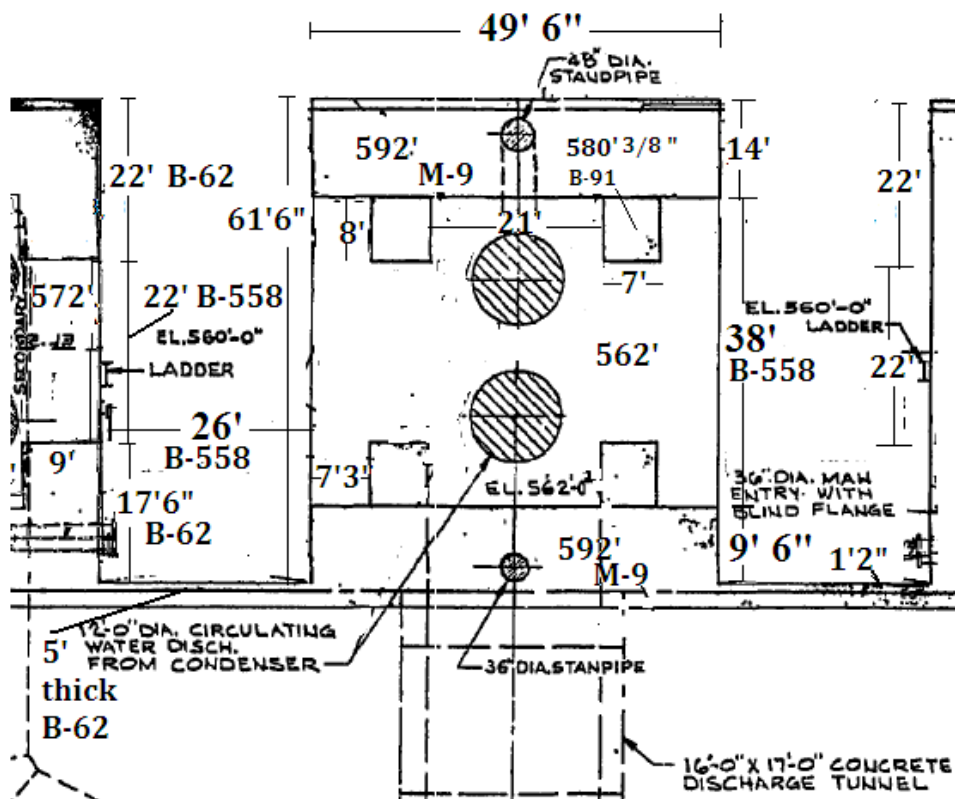
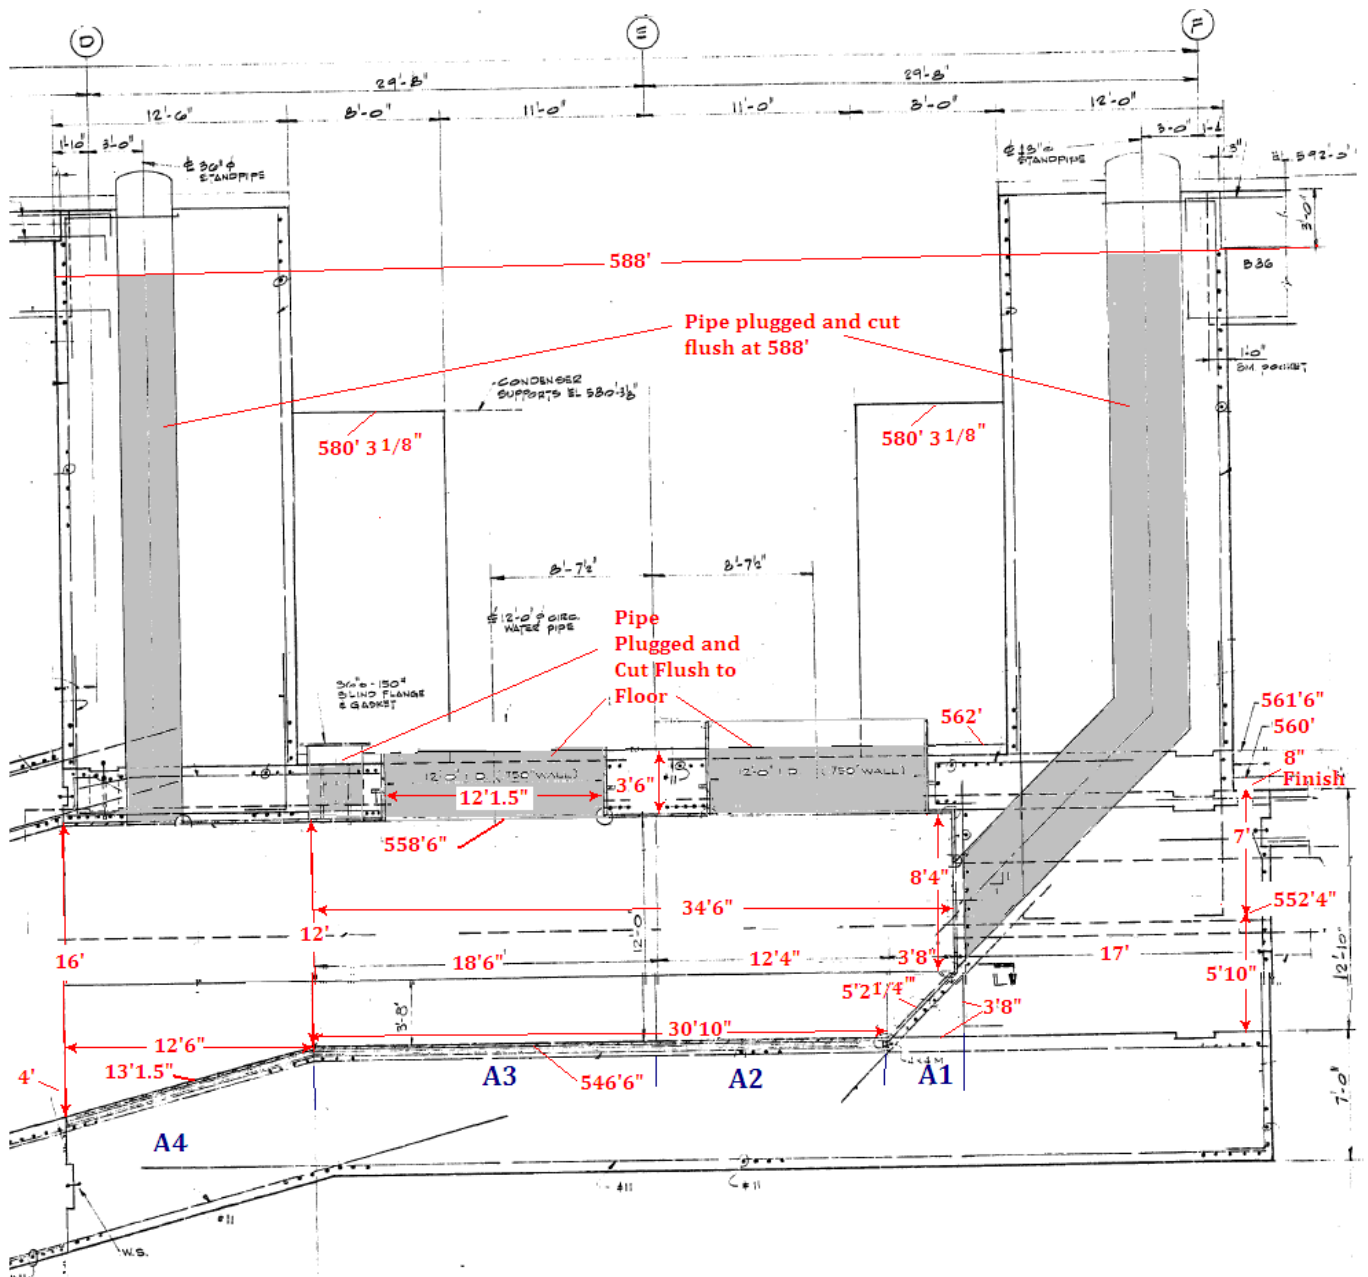
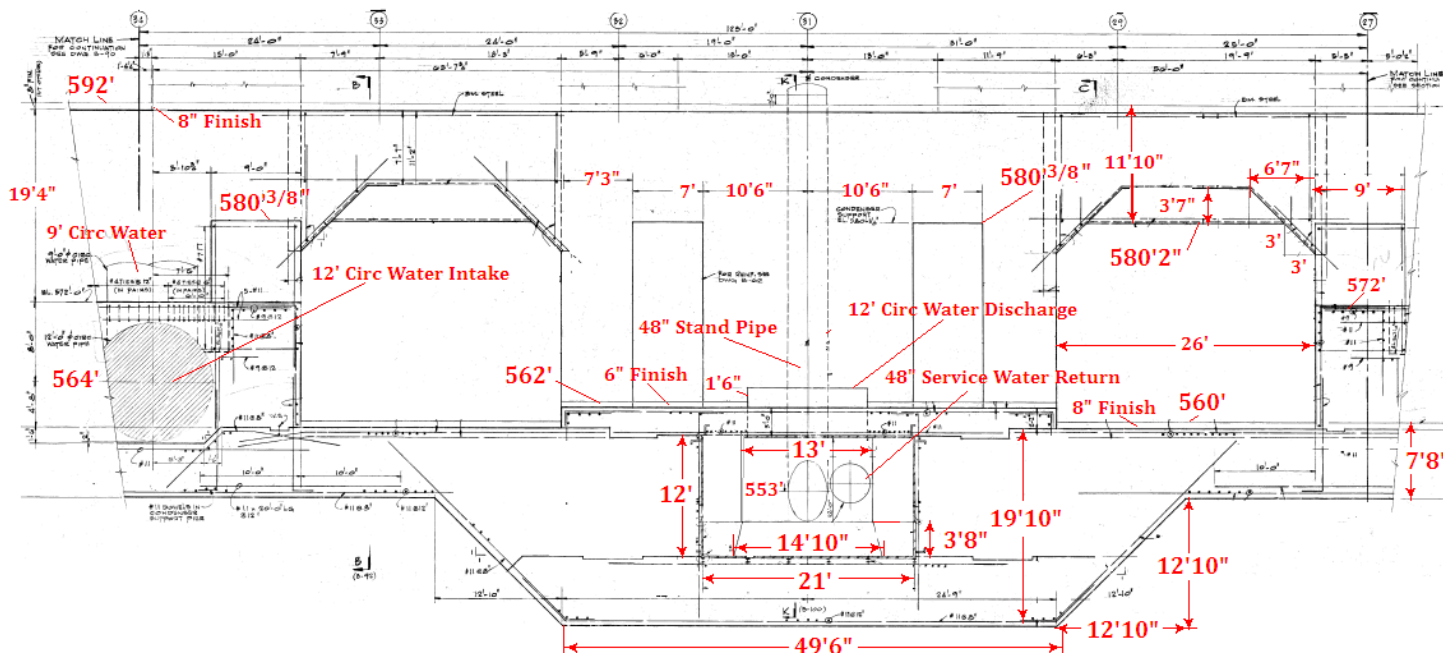

Figure 6 - Top View of Turbine Building Floor Over Section A of Discharge Tunnel
Figure 7 - Side View of Section A from B-100
Figure 9 - Discharge Structure Section A1 - A3 Front View from B-91
Section A is located under the Turbine Building as shown in Figure 6. A side view is provided in Figure 7.
51.03 square feet. The north and south wall lengths are the square root of 3'8" squared plus 11" squared or 3.78 feet. Their height is the mid-point of the 3'8" triangle plus the 8'4" from the top of the slant or 10'2". Each walls surface rea is 3.78 feet times 10.17 feet or 38.43 square feet each. There is also a back west wall in Section A1 that is intersected by the 48" stand pipe and the 48" Service Water Return pipe. Assuming these are plugged closed, the resulting surface rea is the 13' width times the 8'4" height or 108.33 square feet. As seen in Figure 9 the Discharge Tunnel is surrounded by concrete which creates a void space in the 7'8" foot thick 560' elevation floor and extends below it 12'10".
As seen in Figure 7, the length of the Section A portion of the tunnel is 12'6" + 34'6" + 17' or 64 feet long. As seen in Figure 9, 12'10" is below the 7' thick 560 foot elevation floor slab. The volume uncorrected for void space is 49'6" + 12'10" or 62'4" times the 12'10" height and the 64' length which equals 51,196.44 cubic feet (cf).